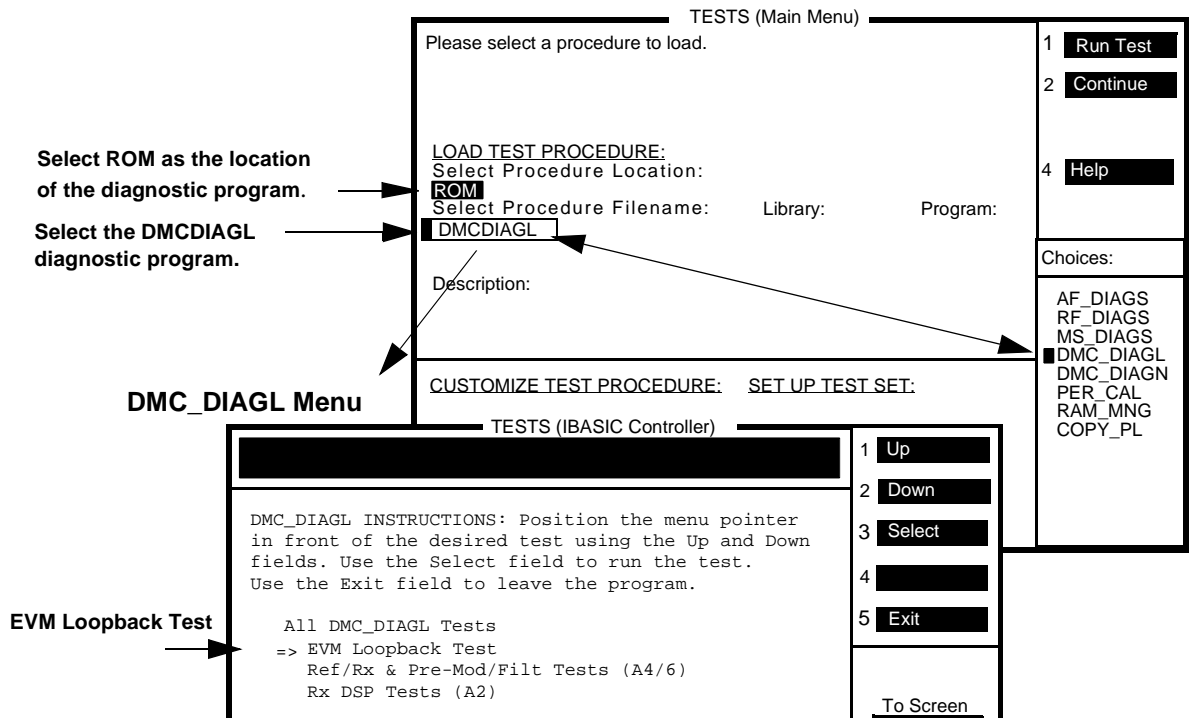

Figure 55 DMC_DIAGL Screen
3. Select ROM for the **Select Procedure Location** field, see figure 55.
5. Press k1 (**Run Test**). The TESTS (IBASIC Controller) screen appears, see figure 55.